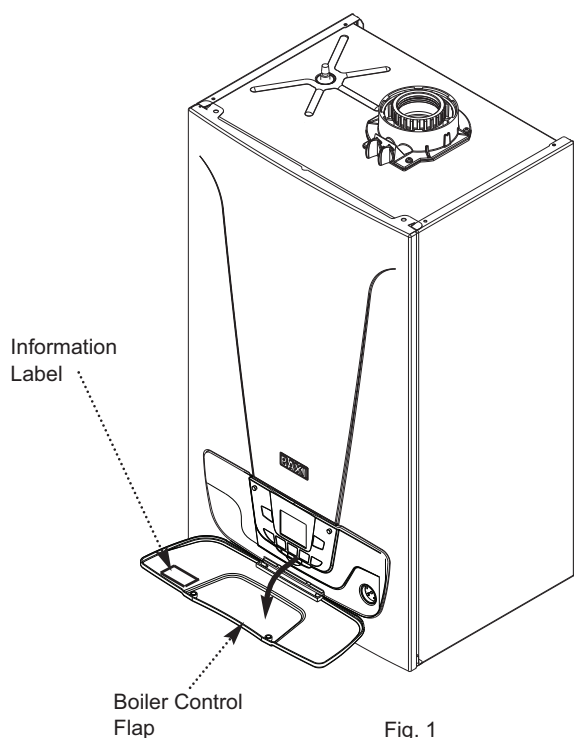

Fig. 1
6. The boiler model, serial number and Gas Council number are also shown on the information label behind the boiler control flap (Fig. 1). This is for user reference.